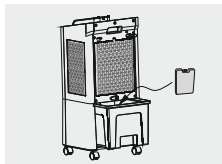

Fig 7
4. Ice box: If the cooler has ice box (optional), Before use, put the ice box in the refrigerator for about four hours and then put it into the water inside the machine tank. When putting into the ice box, the water tank should be taken out from the back, and the ice box should be placed horizontally on the side, in case the water tank cannot be pulled normally. (fig 7)